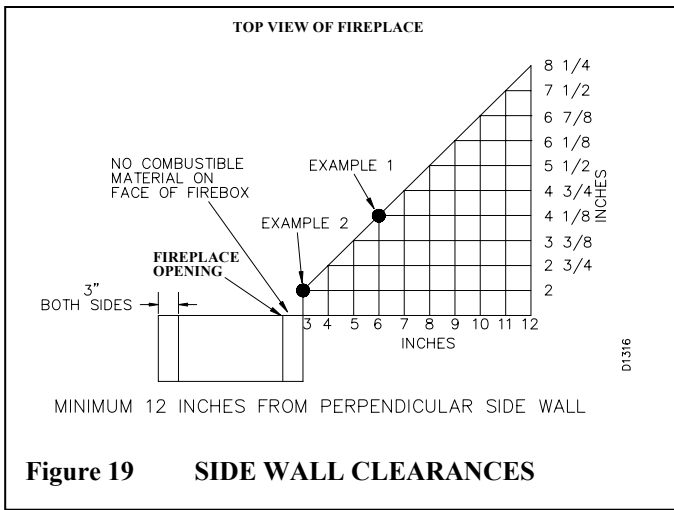

Figure 19 **SIDE WALL CLEARANCES**
Mantels or any other combustible materials such as wallboard, sheet rock, drywall, plywood, etc. butt up to the side of the black metal face of the fireplace. The clearances from the side of the fireplace to any combustible material and wall should fall within the limits shown in figure 19.
*Example 1 (figure 19): The face of a mantel, bookshelf, etc. is made of combustible materials and protrudes 4-1/8" from the wall the fireplace is installed in. This combustible material must be a minimum of 6" from the side of the fireplace opening.
*Example 2 (figure 19): The face of a mantel, bookshelf, etc. is made of combustible materials and protrudes 2" from the wall the fireplace is installed in. This combustible material can butt up against the side of the fireplace (i.e. 3" from the fireplace opening) .